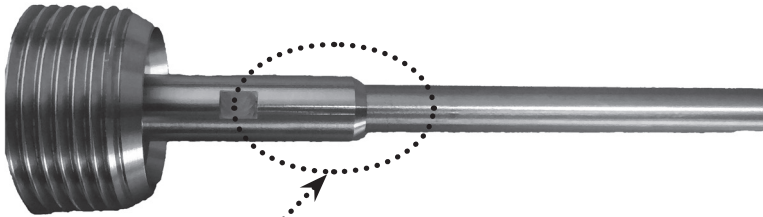

Fig. 27: The threaded connection of the electrode holder with the rod electrode
1. Heat the junction place (threaded connection) of the electrode and the electrode holder (see Figures 27 and 28) using a heat gun at about 120-150 ° C (or 220-250 ° C for high temperature version).